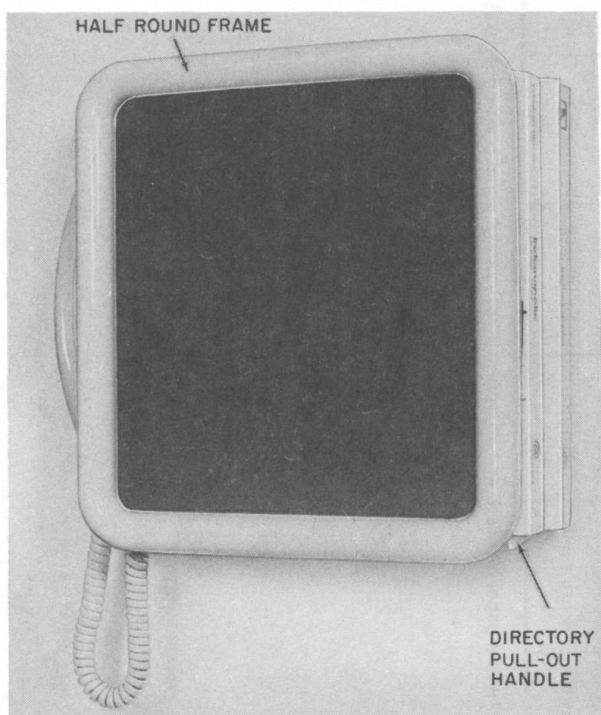

Fig. 1—950A1, 950A2, 2950A1, or 2950A2 Telephone Set Equipped With a Blackboard Front Panel
1.01 This section contains identification, installation, and connection information for the 950A1, A2, A3, and 2950A1, A2, A3 (Fig. 1) DESIGN LINE* wall telephone (*Noteworthy**) sets.